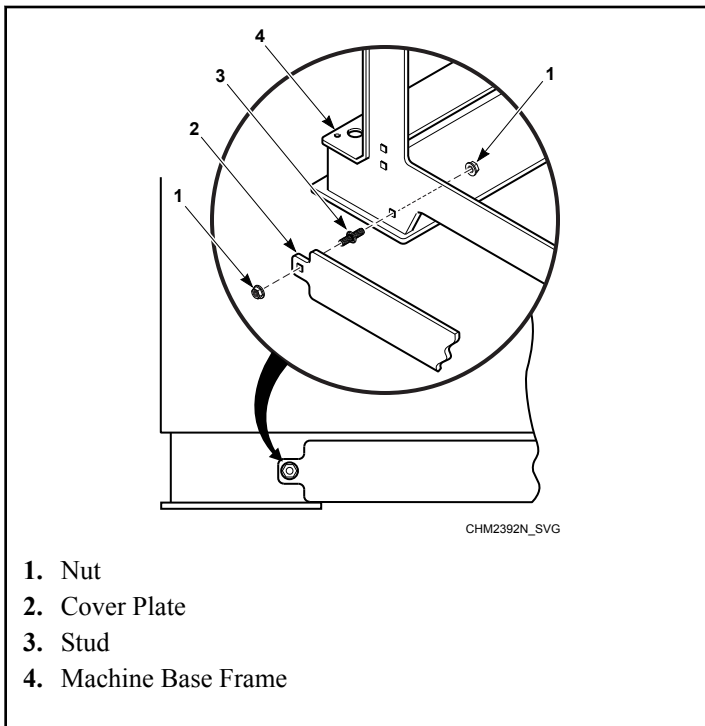

Figure 39
1. Locate the two holes on the front of the machine base frame. Refer to *Figure 39*.
2. Using the hardware from removing plate from back panel, install the cover plate to the machine base frame. The square on stud goes into square hole in machine frame. Refer to *Figure 39*.